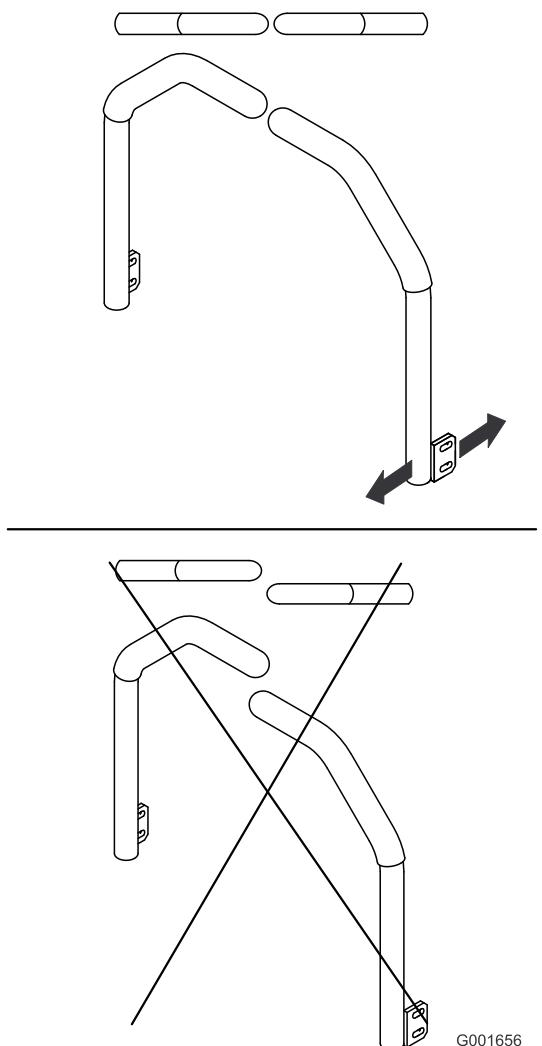

Figure 65
- 5. Adjust the control levers so that they line up (Figure 65) and tighten the bolts, securing the levers to the posts.